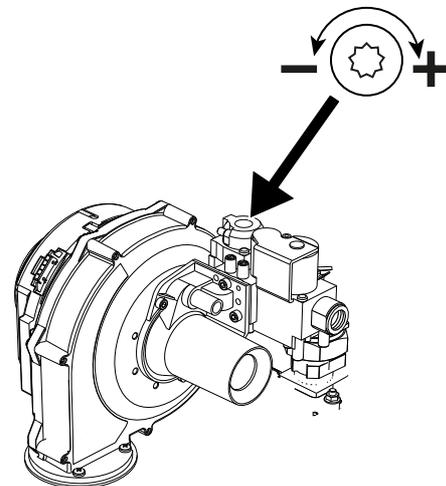

fig. 96- OFFSET minimum capacity adjustment screw
- If the values do not correspond to those indicated, adjust the CO2 with the OFFSET adjustment screw (see fig. 96), bringing them back to those indicated.